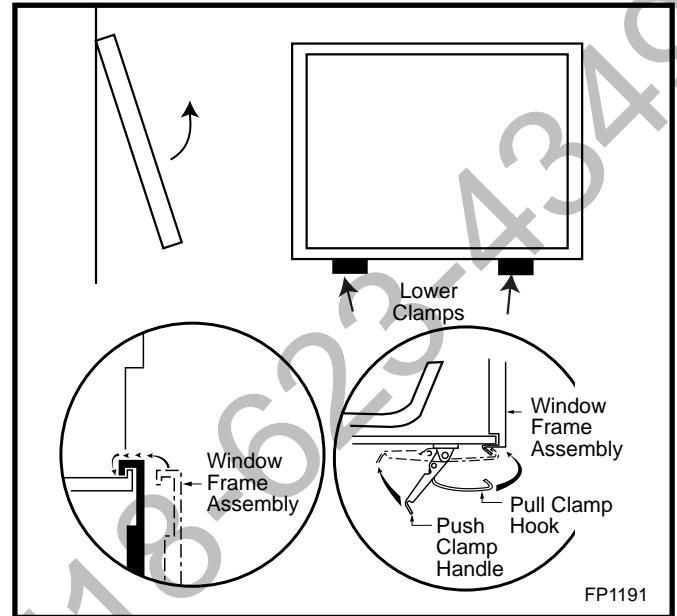

Fig. 42 Window frame assembly removal.
5. Release the two (2) clamps along lower edge of the frame by pulling down on clamp handles. (Fig. 42)